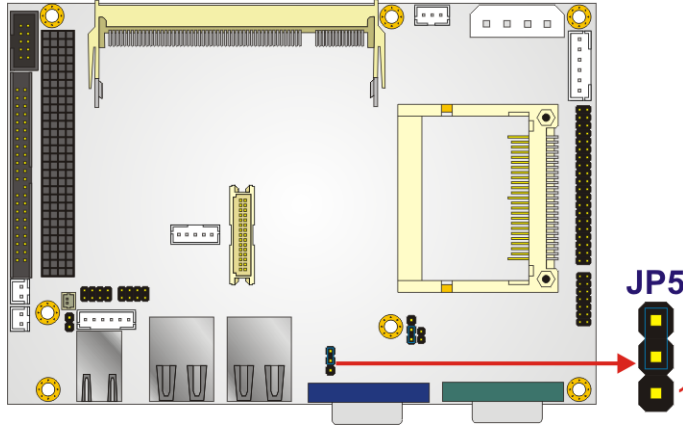

Figure 5-8: LCD Voltage Selection Jumper Location
- Jumper Location:** See Figure 5-8
The LCD Voltage Selection jumper location is shown in **Figure 5-8**.